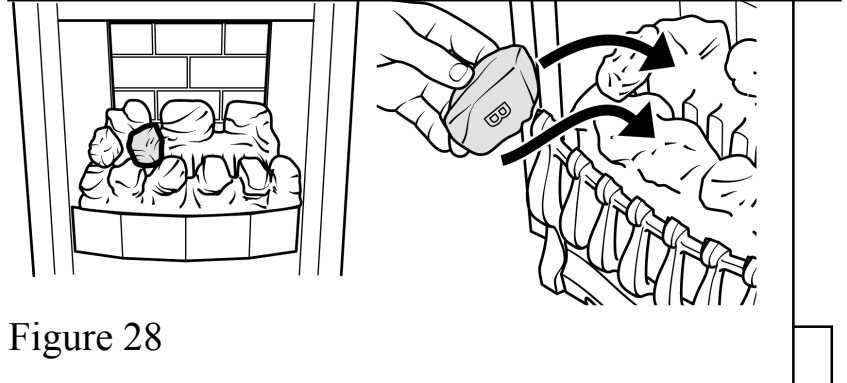

Figure 28
6. Place a type "B" coal between the front and rear base coals as shown in figure 28. The letter "B" should be upright.